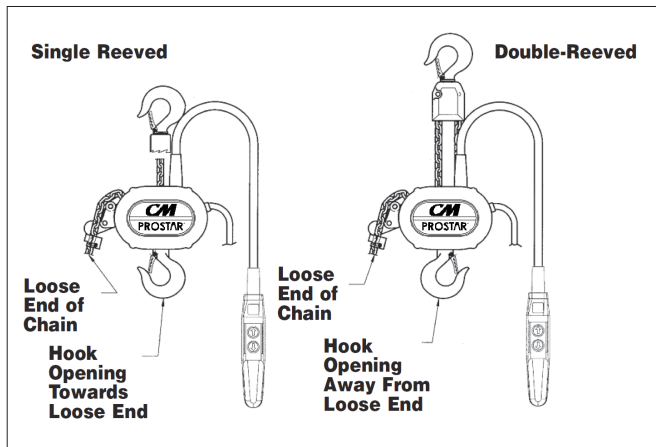

Figure 23 - Chaining Diagram
10. Properly install the upper hook as shown in Figure 23, then slide the hook retainer into the cavity on top of the hoist and secure it using hook retainer screw. Tighten screw to a seating torque of 10 in. lbs. (1.1 NM).